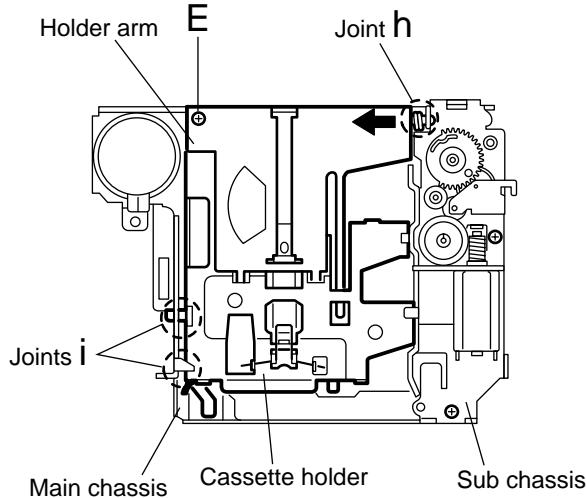

Fig.5
■ Removing the cassette holder / holder arm (See Fig.5)